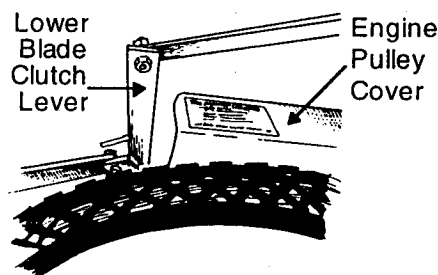

Figure 16
- Retighten the bolt on the brake assembly. Engage and disengage the blade clutch lever and check for proper brake pad alignment in the spindle pulley. The distance between the lower clutch lever and the engine pulley cover should now be 1" (or two fingers width) (*Figure 16*).